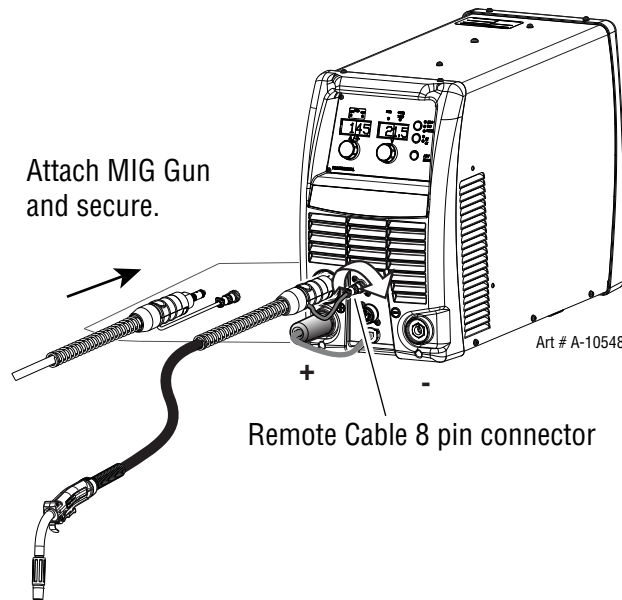

Figure 3-8: Mount MIG Gun Cable to Adapter Socket
4. If equipped, align the keyways of the MIG Gun Switch connector pigtail with the 8 pin receptacle to the right of the MIG Gun cable and plug them together. Secure by turning the locking ring to the right (clockwise). Refer to Figure 3-8.